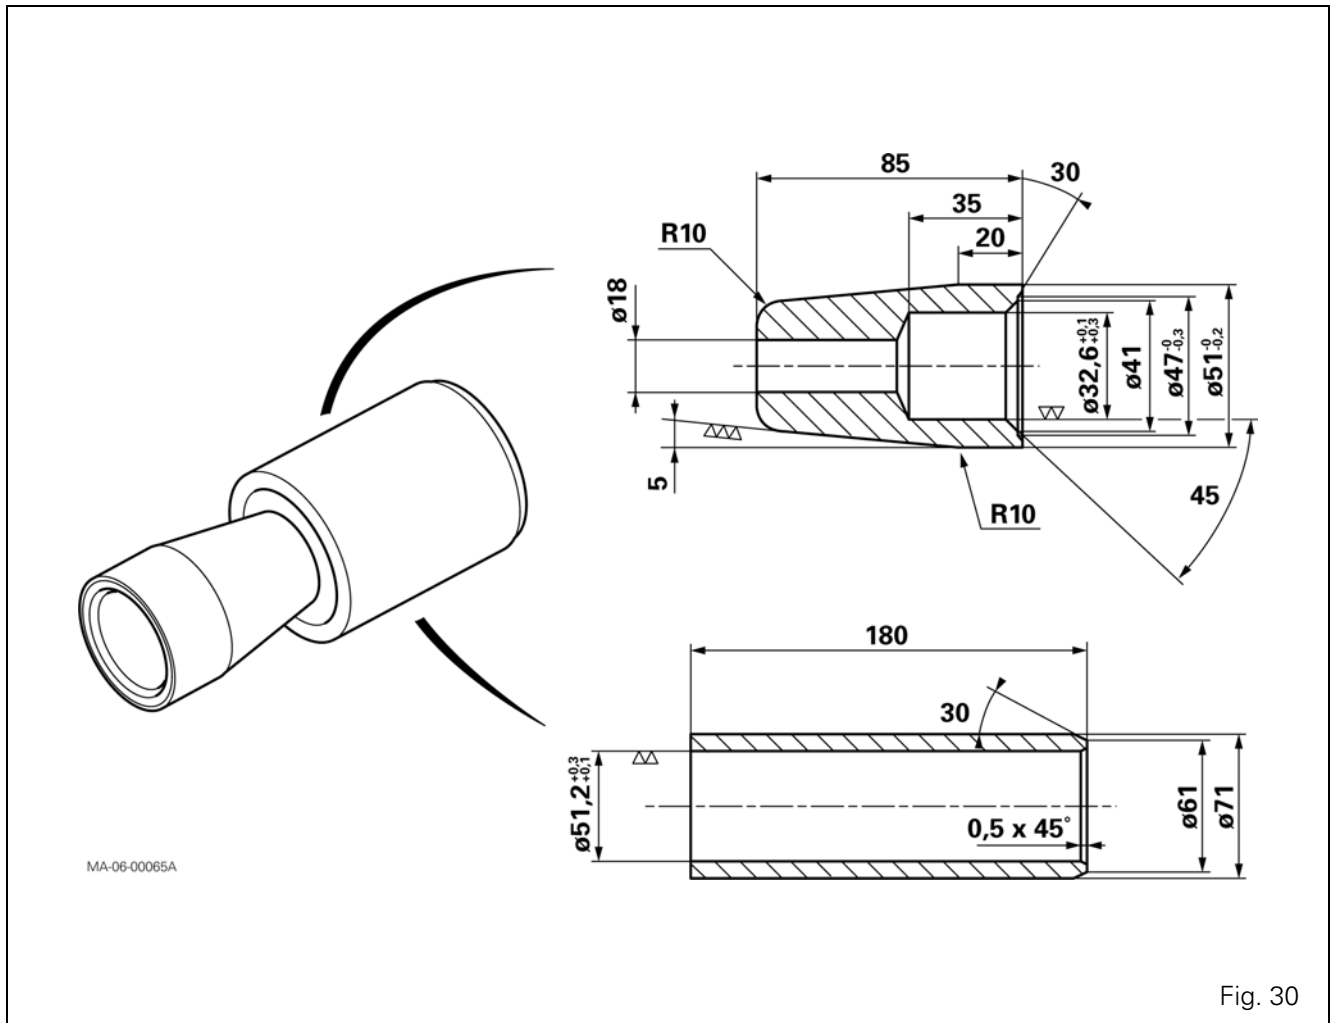

Fig. 30
- Cone and pushrod for fitting snap ring (33) (Fig. 30)